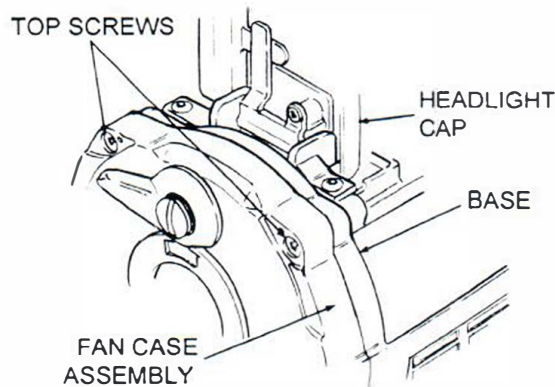

Figure 20. Headlight Cap/Slide Bracket Assembly/Handle Pivot Assembly
- E. *See Figure 20.* Remove two screws at the top of the fan case. These screws pass through the fan case assembly and base pan and thread into the slide bracket casting. Remove headlight cap/slide bracket assembly and handle pivot assembly as a complete unit.